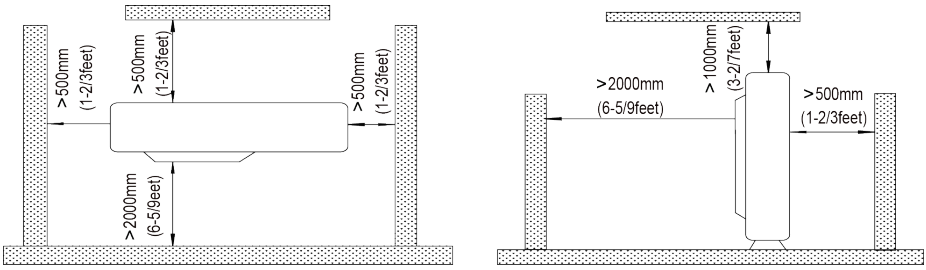

Fig. 3.2
- (1). If possible, do not install the unit where it will be exposed to direct sunlight. (If necessary, install a blind that does not interfere with the air flow.)
- (2). Install the outdoor unit in a place where it will be free from getting dirty or getting wet by rain as much as possible.
- (3). Install the outdoor unit where it is convenient to connect the indoor unit.
- (4). Install the outdoor unit where the condensate water can be drained out freely during heating operation. Do not place animals and plants in the path of the warm air.
- (5). Take the air conditioner weight into account and select a place where noise and vibration are small.
- (6). Install the outdoor unit where is capable of withstanding the weight of the unit and generates as less noise and vibration as possible.
- (7). Provide the space shown in Fig. 3.2, so that the air flow is not blocked. Also for efficient operation, leave three of four directions of peripheral constructions open.